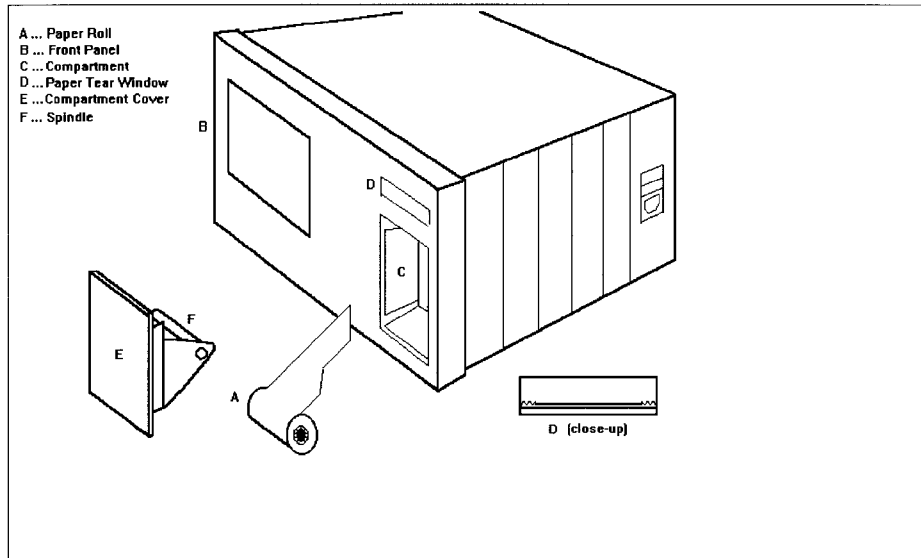

Figure 1 Location of Printer Components
Internal Printer Description (All References are to Figure 1)
See the close-up in Figure 1.
5. Undo the new roll of paper and using sharp scissors, cut the first four inches of the paper as shown in Figure 1 and on the new User Instruction label (see modification procedure above).
6. Place the roll of paper in compartment (C) such that the paper feeds upwards into the printer head (see Figure 1).
7. Carefully hand-feed the paper into the slot between the printer and the printed circuit board. This slot is visible looking up into compartment (C) and will be seen just behind the cylindrical printer motor.
8. By sliding the paper carefully from side to side, you will be able to push it all the way through the printer mechanism until it emerges through the slot in the Paper Tear Window (D).